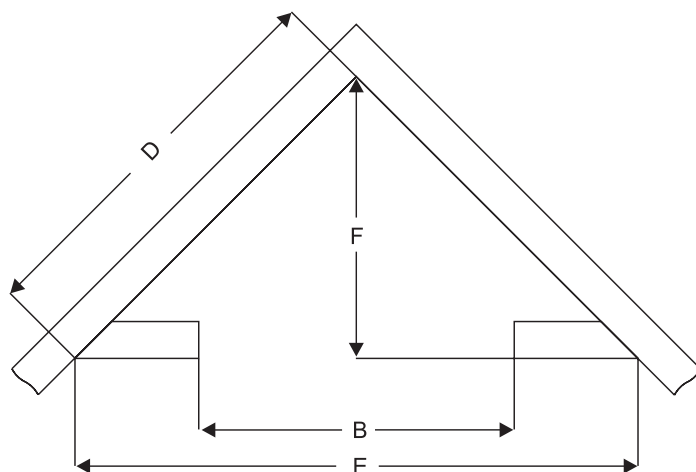

Figure 21 - Rough Opening for Installing in Corner
- Use dimensions shown in Figure 21 for corner rough opening. Be sure to provide gas line and electrical power for fireplace assembly.